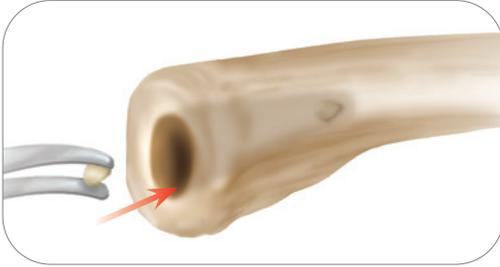

Figure 5-2
**Surgical Pearl:** Use impaction grafting from resected metacarpal before final implant is seated. This ensures a snug fit and allows time for bone to remodel around stem. (Figure 5-2 and 5-3)